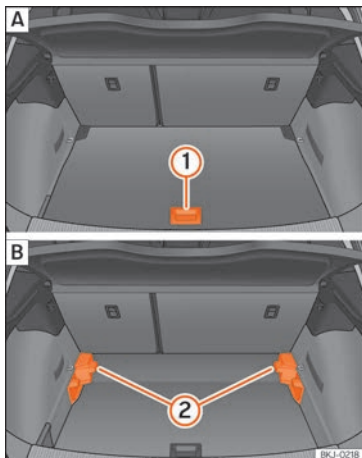

Fig. 128 Variable luggage compartment floor:
- To move from the low position to the high position, lift the floor using the handle »» Fig. 128 ①, and pull it back until the front of the floor has fully passed the supports ②.
- Move the floor forward over the supports as far as the rear seat backrest and then lower the floor with the handle ①.
- To move from the high position to the low position, lift the floor using the handle »» Fig. 128 ①, and pull it back until the front of the floor has fully passed the supports ②.
- Now let the front part fall to the floor and slide the floor forwards as far as the rear seat backrest; lower the floor at the same time with the handle ①.
- Lift the variable floor in the high position using handle »» Fig. 128 ①, pull it up and push it towards the backrest of the rear seats until it folds along the hinge line and the movable part of the floor is resting on itself.